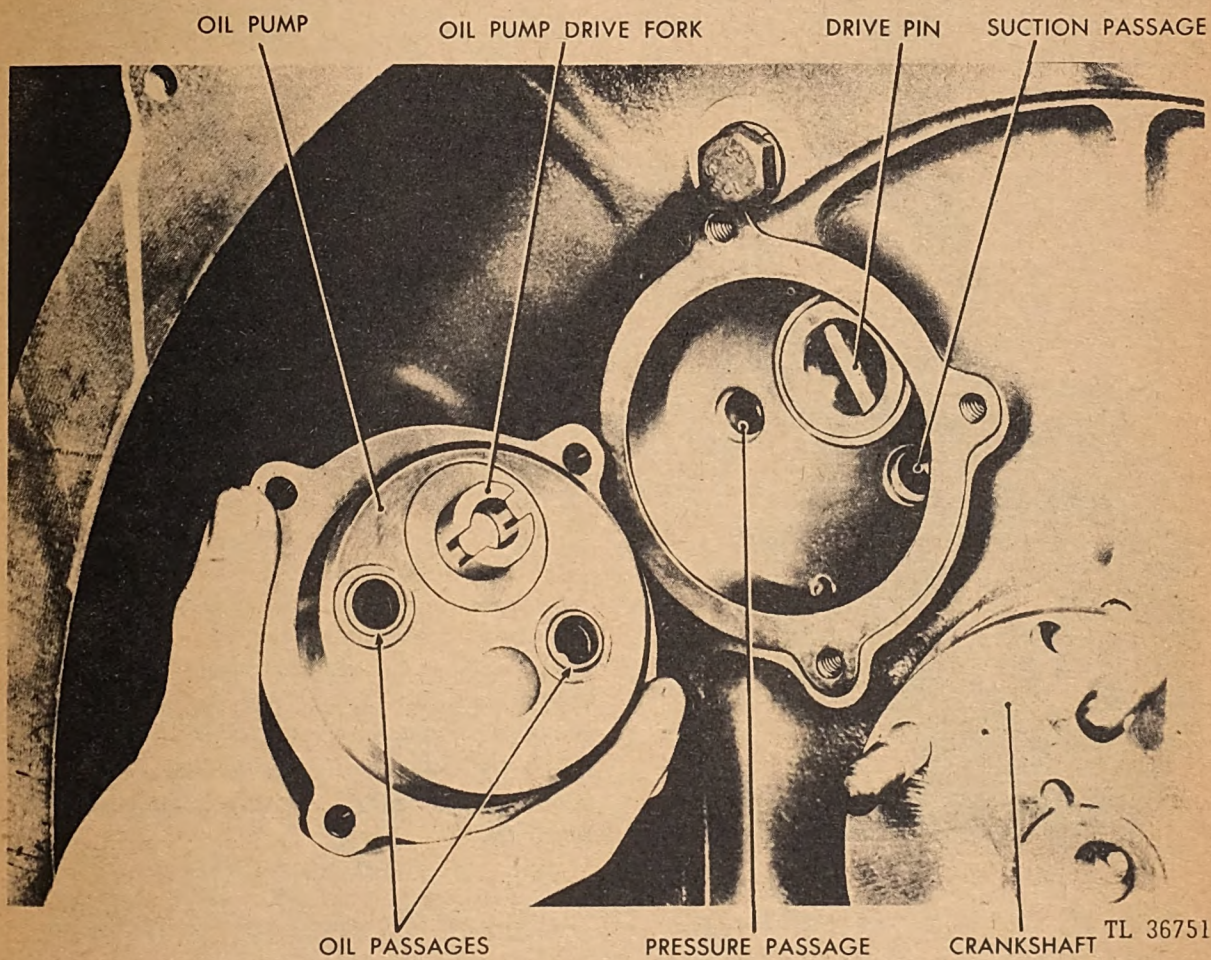

Fig. 99. Removing Oil Pump
m. *Removing Oil Pump.* Unscrew the four oil pump retaining capscrews and pull out the oil pump. (See Figure 99.)